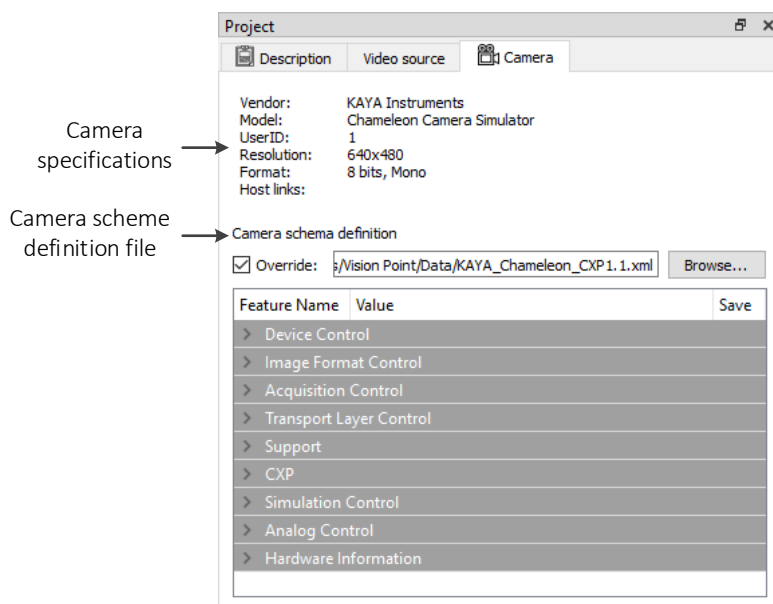

Figure 37 – New project camera parameters
6. (Optional) Choose the Override option and Browse the desirable XML as shown in Figure 37. The latter holds all the camera parameters values.